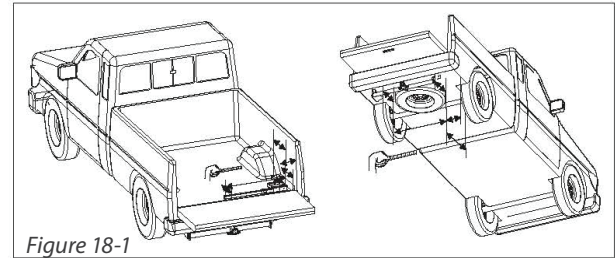
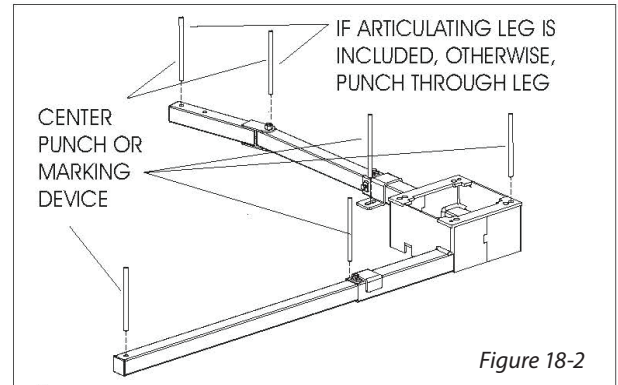

Figure 18-1
Figure 18-2
- 4. Double-check and recheck potential hole positions** again before drilling pilot holes. [Figure 18-1] With a center punch or marking device, mark the locations to be drilled. Remove the Base, Legs, and Anchors. Check that the marked locations are in the desired locations. Drill the pilot holes through the marked locations using the 1/8" drill bit. [Fig. 18.2] Be sure to drill straight down, otherwise, fasteners will not fit properly. [Figure 18-3]